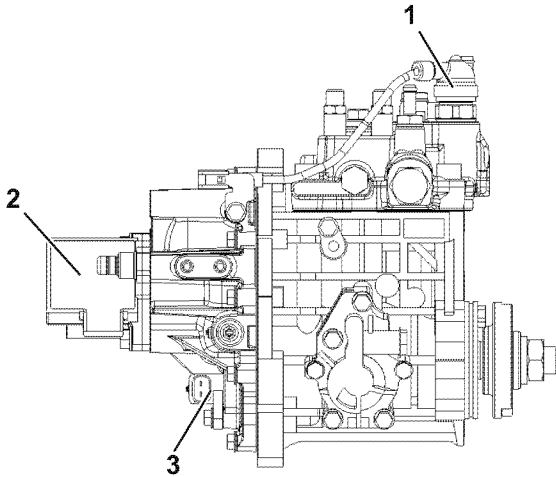

Figure 7-1
- YANMAR’s TNV series engines are installed with Cold Start Device (CSD). The electronically controlled engines (3TNV88F-E) use a CSD that includes a fuel injection pump (1, **Figure 7-1**) provided with a solenoid valve.
Electronically controlled engines are quipped with an electronically controlled governor called “Eco Governor”. Combined with the rack actuator (2, **Figure 7-1**), engine speed sensor (3, **Figure 7-1**), and other parts, the electronically controlled governor communicates with the engine controller (ECU), whereby the engine speed and fuel injection rate are controlled.